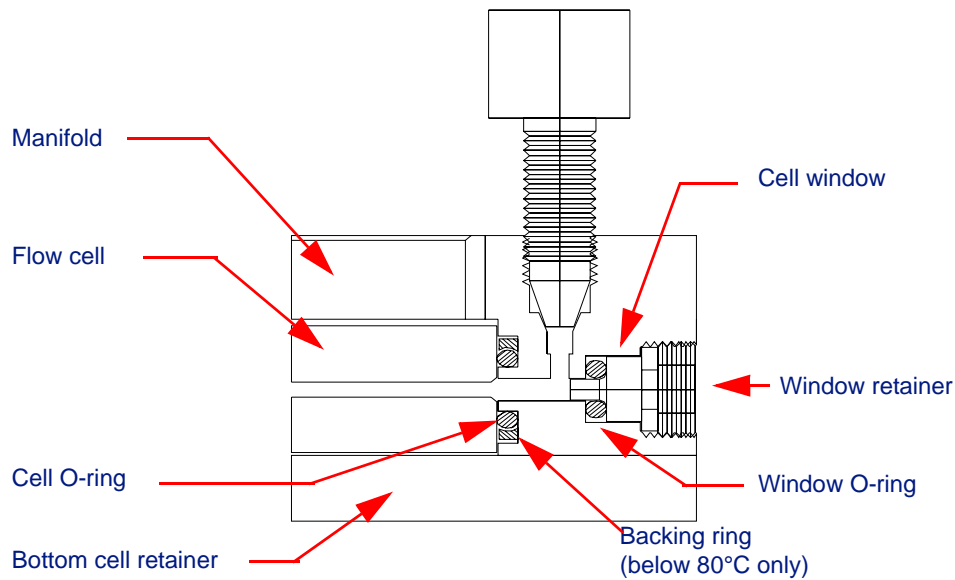

Figure 5-12: Window mount detail
1. Carefully replace the windows with their O-rings, washers and retainers so that the windows are not chipped or over-tightened. (See Figure 5-12.)